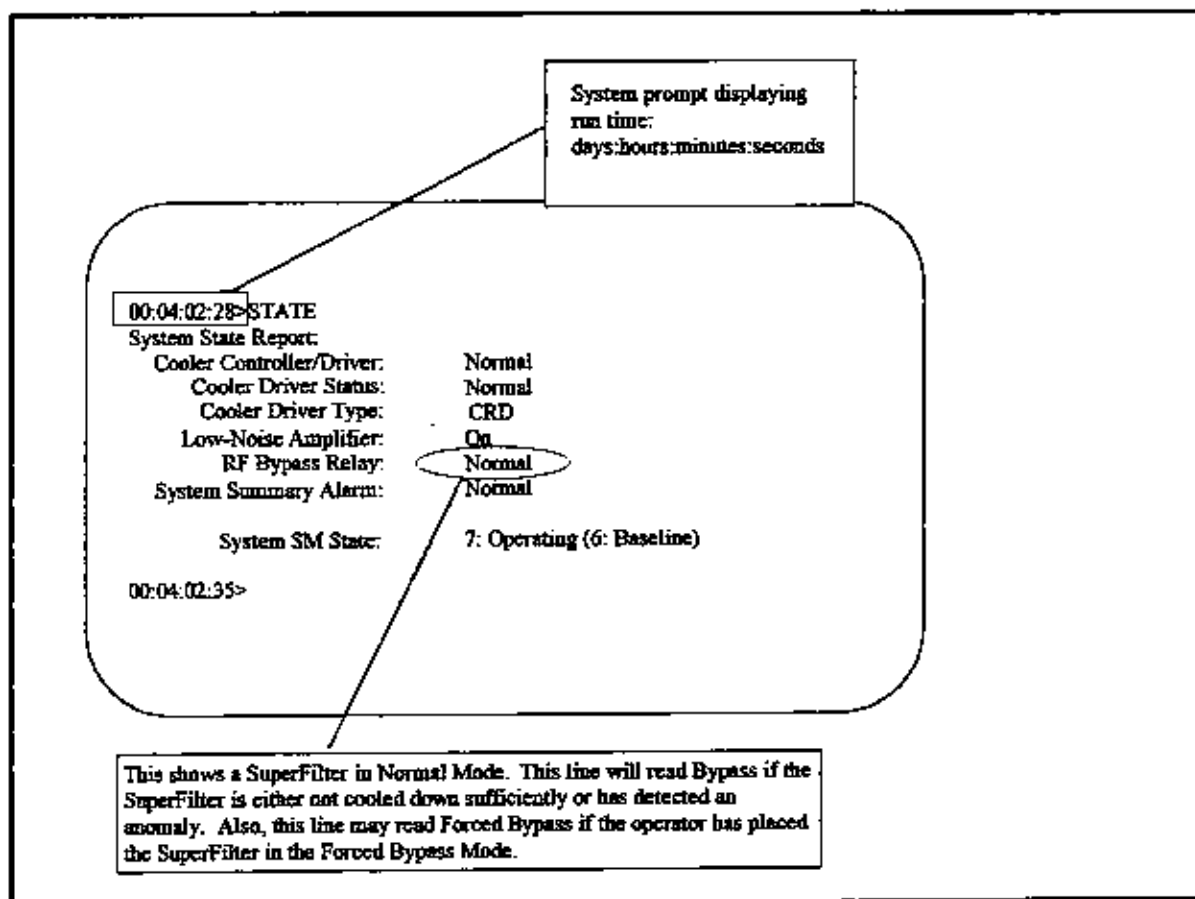

Figure 10. Example of a System State Report
5.	The Console Terminal display screen should show a System State report like the example shown in Figure 10. Record System State results on the Installation Data Record in Appendix D.
6.	With the STATE command issued, verify the SuperFilter is in System State Machine (SM) State: 7: Operating. This indicates the SuperFilter is operating normally. Record the displayed data and continue with procedures. If the cool-down process is completed and the System SM State does not read 7: Operating, call (800) 727-3648 extension 767, or (805) 683-7646, extension 767.